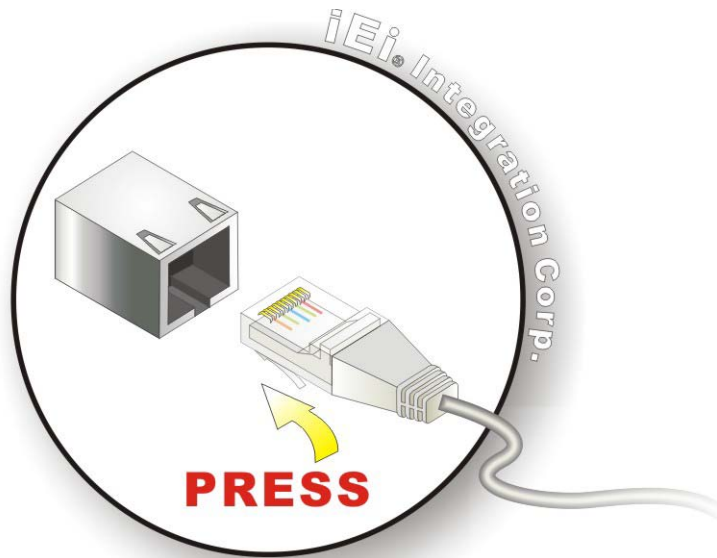

Figure 3-16: LAN Connection
Step 2: Align the connectors. Align the RJ-45 connector on the LAN cable with one of the RJ-45 connectors on the TANK-820-H61. See **Figure 3-16**.